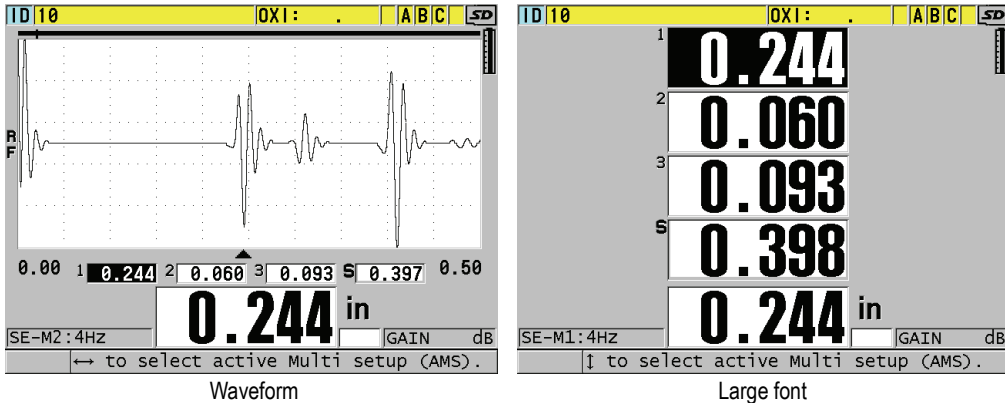

Figure 7-8 Multi-measurement display modes with three layers and the sum
- d) Set **DISPLAY MODE** to (see Figure 7-8 on page 98):
- c) Set **DISPLAY MODE** to **WAVEFORM** or **LARGE FONT** (see Figure 7-8 on page 98).